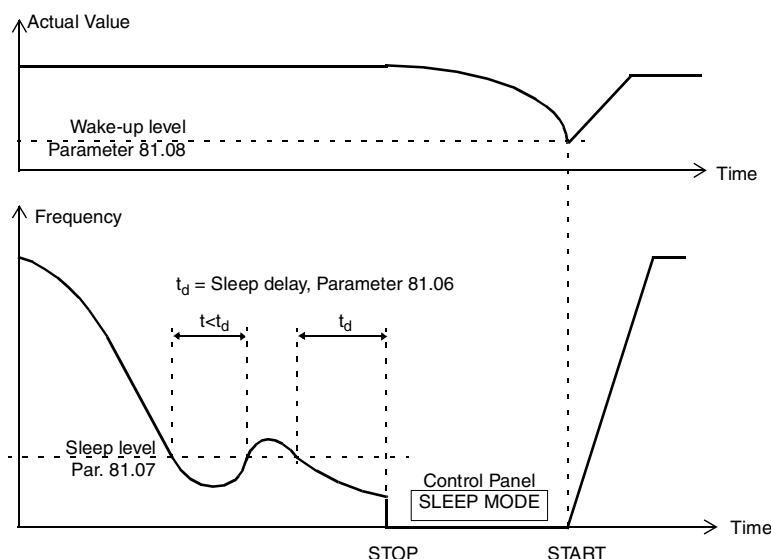

Figure 6-20 Operation of the Sleep function.
81.06 SLEEP DELAY This parameter sets the delay for the Sleep function (see Figure 6-20). If the ACS 600 output frequency is below a set level (81.07 SLEEP LEVEL) longer than the Sleep Delay, the ACS 600 is stopped, and the Control Panel shows the warning message “SLEEP MODE”.
81.07 SLEEP LEVEL This parameter sets the frequency limit for the Sleep function (See Figure 6-20). When the ACS 600 output frequency falls below the Sleep Level the Sleep Delay counter is started. When the ACS 600 output frequency rises above the Sleep Level the Sleep Delay counter is reset.
81.08 WAKE UP LEVEL This Parameter sets the process actual value limit for the Sleep function (See Figure 6-20). When the actual value falls below the limit, the Sleep function is interrupted.